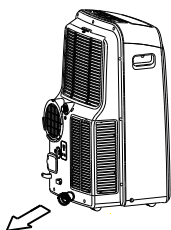

Fig.22
Carefully move the unit to a drain location, remove the bottom drain plug and let the water drain away(Fig.22). Reinstall the bottom drain plug and restart the machine until the "P1" symbol disappears. If the error repeats, call for service.
- Remove the plug from the bottom drain outlet, all the water in the bottom tray would drain out (See Fig.22).